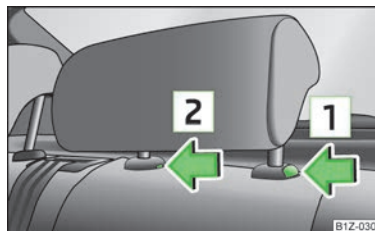

Fig. 45
- Press the locking button in the direction of arrow **1** » Fig. 45, simultaneously press the locking button into the opening **2** using a flat screwdriver with a width of maximum 5 mm and pull out the head restraint.